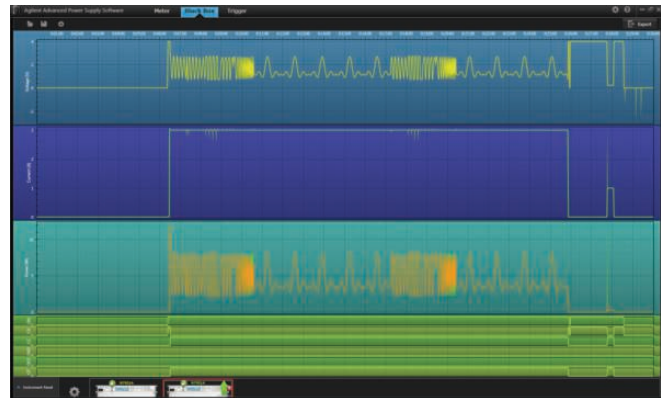

Figure 9. Black box recorder data displayed within the N7906A Power Assistant software
Much like a flight data recorder, the N7908A black box recorder (BBR) runs continually in the background, independent of what the power supply is doing. When the power supply is on, the BBR is recording power events and storing measurements in non-volatile memory. The BBR can be set for either a 24-hour record or a 10-day record period. In the 24-hour mode, measurements are made at a rate of 100 per second, and in the 10-day mode they are made at a rate of 10 per second. The BBR data can be accessed via the free APS power assistant software (see *Figure 9* on page 9). The BBR is a user-installable hardware option, and it works in all APS N6900 and N7900 power supplies. You can purchase the N7908A BBR with an APS power supply or buy it later and install it in your existing APS power supply. The BBR hardware board plugs into the bottom of an APS power supply, as shown in *Figure 8*.
- Retrieve and view data from the optional APS power supply black box recorder (see Figure 9)